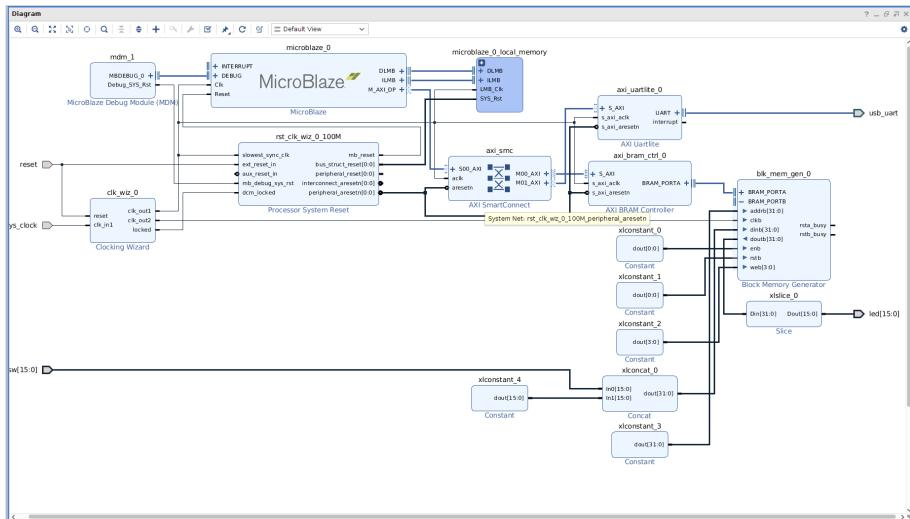

Figure I.3: The block diagram for the shared memory exercise.
The full hardware configuration we are going to build today is shown in Figure I.3. Build the diagram up using the instructions below. Some of the blocks that you will add will need to be customised. Customisation of the various blocks is described in Section I.1.
17. Save your diagram, which should now have the same connections as shown in Figure I.3.